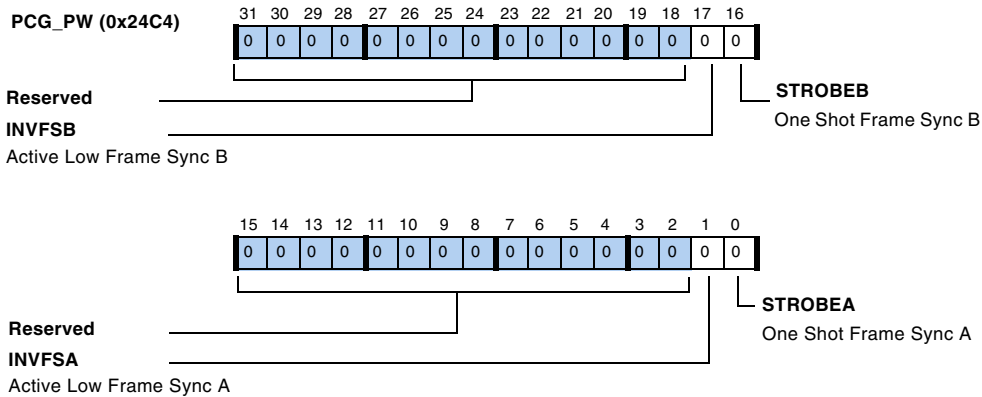

Figure A-60. PCG\_PW Register (Bypass Mode)
- PCG\_PW, described in Figure A-60